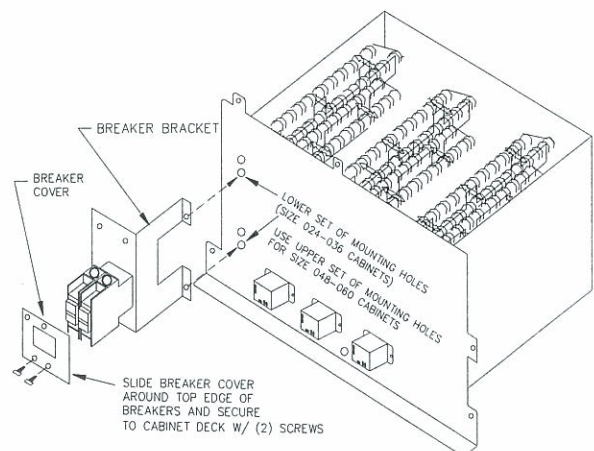

FIG. 3 - BREAKER BRACKET INSTALLATION
Installer must install the breaker mounting bracket on the heater plate with (2) screws provided, use the lower set of mounting holes to install the breaker bracket on size 024 - 036 cabinets. For use on size 048 - 060 cabinets use the upper set of mounting holes (see fig 3).